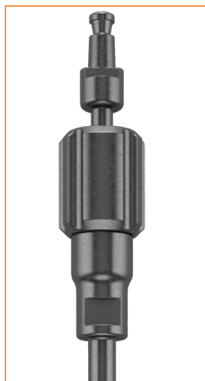

Figure 4
- Place the **Interbody** on the **Inserter (V070-1022)** and rotate the inserter knob clockwise (Fig. 4) until the implant is secured.